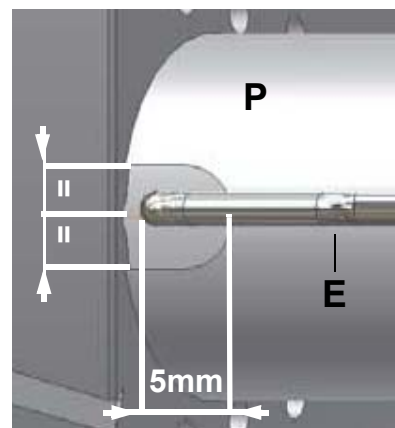

Fig. 32
Observe the values quoted on Fig. 32.
- 2 disconnect the electrode (E) cable (CE);
- 4 loose screw (B) that fasten the ignition electrode (E) to the burner pilot (P);
- 5 remove the electrode and replace it, referring to the values quoted on Fig. 32.